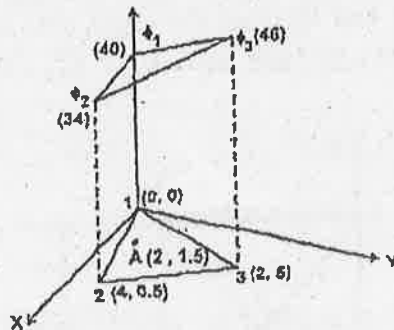

Fig.13(a)
- (b) Derive the stiffness matrix for 2D truss element. (16)
13. (a) Calculate the value of pressure at the point A which is inside the 3 noded triangular element as shown in Fig 13(a). The nodal values are $\phi_1 = 40$ MPa, $\phi_2 = 34$ MPa and $\phi_3 = 46$ MPa, Point A is located at (2, 1.5). Assume pressure is linearly varying in the element. Also determine the location of 42 MPa contour line.